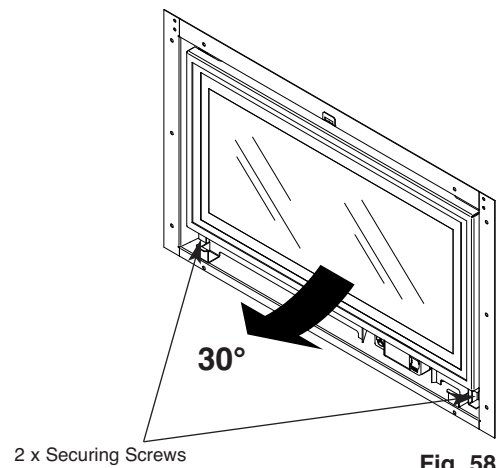

Fig. 58
1. Remove the two screws at the bottom of the glass door panel (Fig. 58).
2. Hinge the door upwards by approximately 30° (Fig. 58).